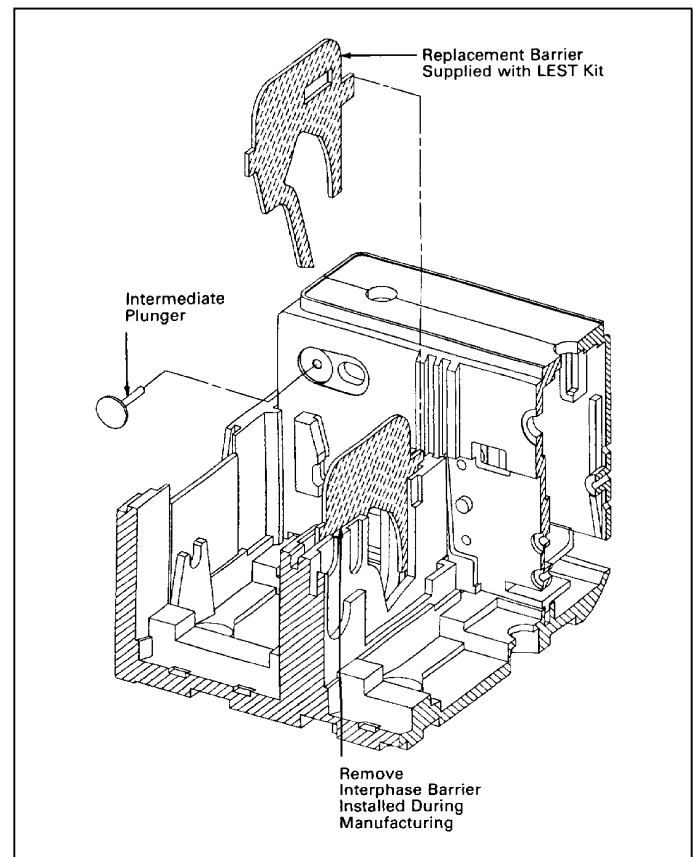

Fig. 2-2. Interphase Barrier Replacement and Intermediate Plunger Positioning
- 2-6. Remove interphase barrier between center pole and pole in which accessory is to be mounted (Fig. 2-2).
- 2-7. Install replacement interphase barrier (supplied with kit) in base (Fig. 2-2).